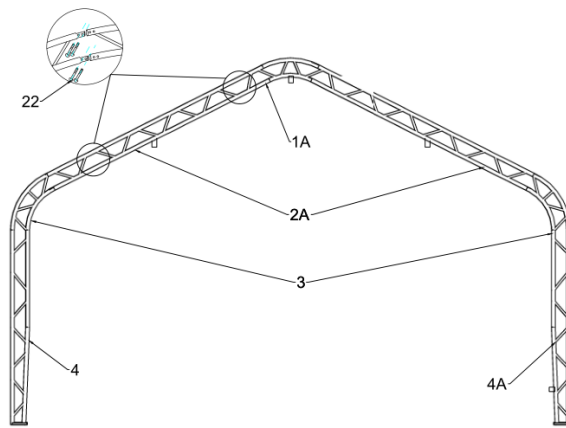
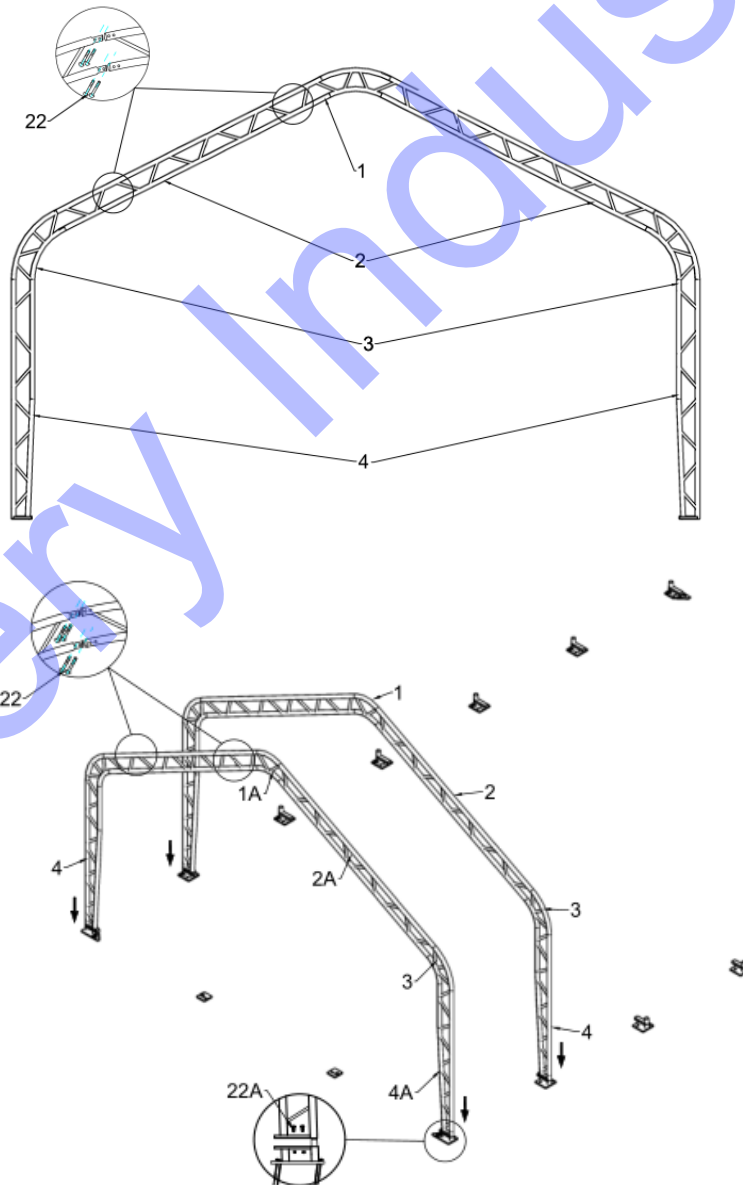

Figure 3
Figure 4
1. Figure 3 shows to connect the Roof bent tube for front and back door (No.1A), Sidewall bent tube for front and back door (No.2A), Shoulder bent tube (No.3), Standing leg (No.4) and Standing leg for front door (No.4A) with Carriage bolt 8x70 (No.22), then put the arch into tube of the Base flange by hoist (see Figure 4)
2. Figure 4 shows to connect the Roof bent tube (No.1), Sidewall bent tube (No.2), Shoulder bent tube (No.3), and Standing leg (No.4) with Carriage bolt 8x70 (No.22), then put the arch into tube of the Base flange by hoist, and